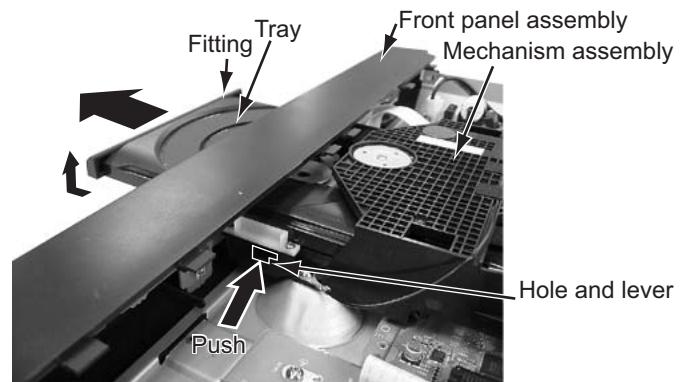
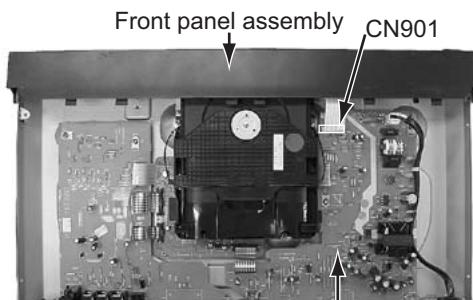
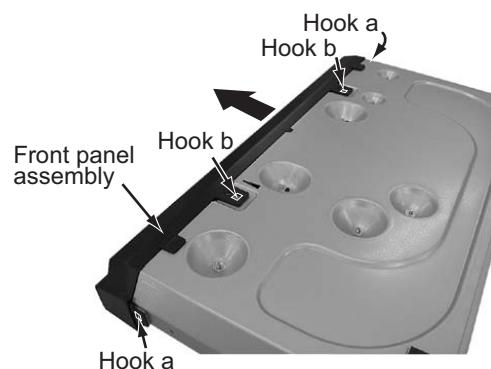
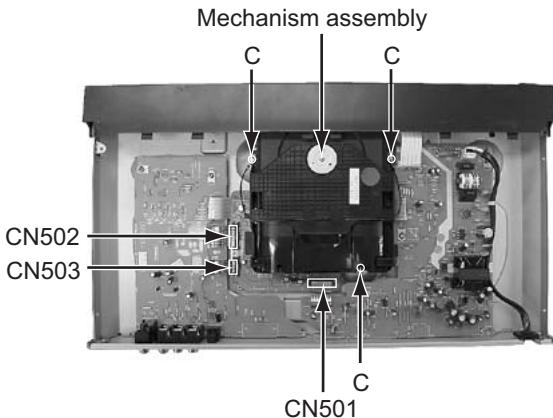

Fig.2
Fig.3
Fig.4
Fig.5
2.1.2 Removing the front panel assembly (See Figure 2, Figure 3, Figure 4)
2.1.3 Removing the mechanism assembly (See Figure 2, Figure 5)